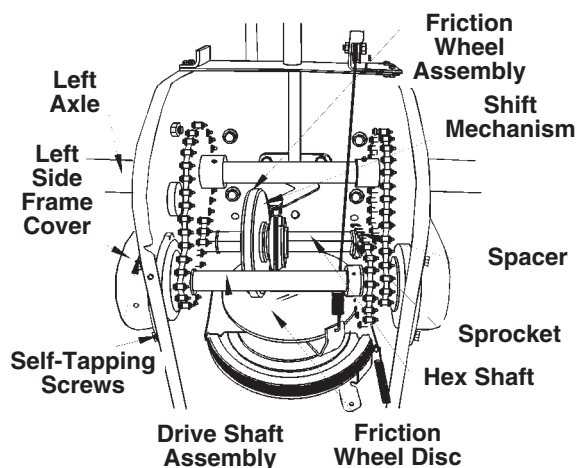

FIGURE 10.
3. Pull the idler pulley towards you and remove the drive belt from the pulley. You will find the idler pulley in front of the engine and under the belt cover that you removed earlier. See figure 10.